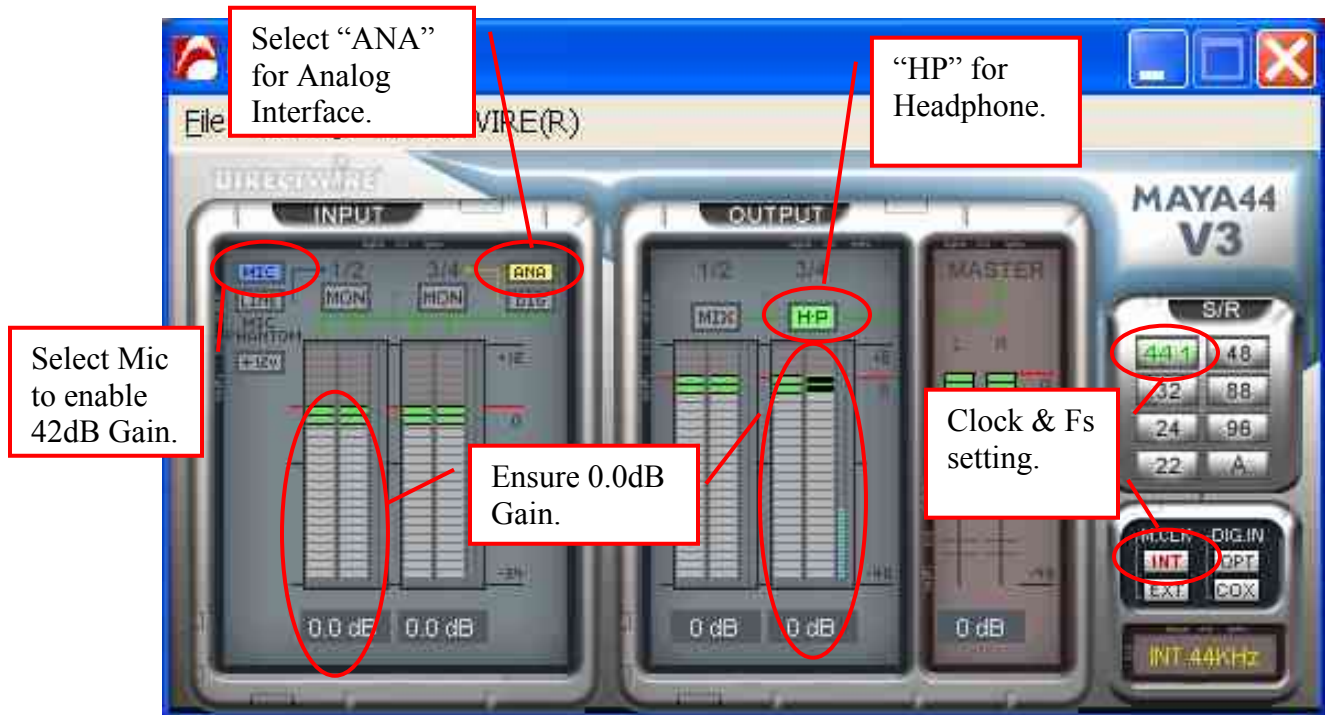

Fig. 2-7 MAYA 44 v3 Configuration
- The window shown in Fig. 2-7 will pop-up. Set the parameters as identical as shown in Fig. 2-7.